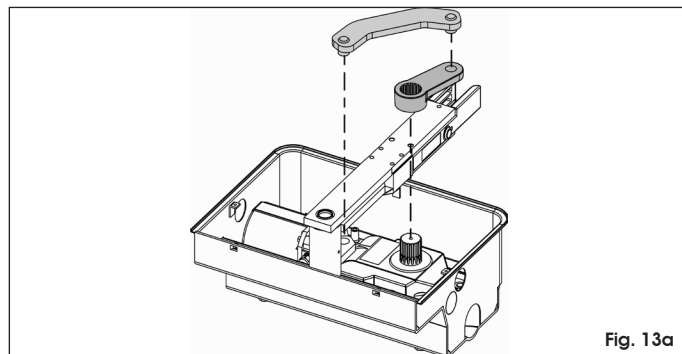

Fig. 13a
2. Place the operator on the fastening screws on the foundation box, and fix it by means of the nuts and washers supplied (fig. 13a and 13b).
3. Manually close the leaf and fit the driving levers supplied, as shown in Fig. 13a.